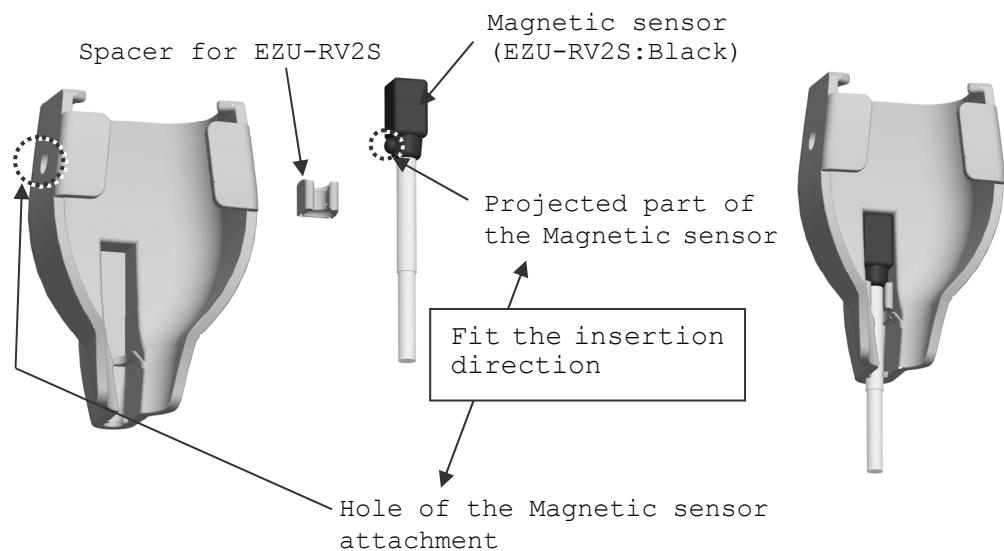

Fig. 4 How to attach the Magnetic sensor
- Insert the magnetic sensor (EZU-RV2S) into the magnetic sensor attachment with the correct direction as shown in Fig. 4.